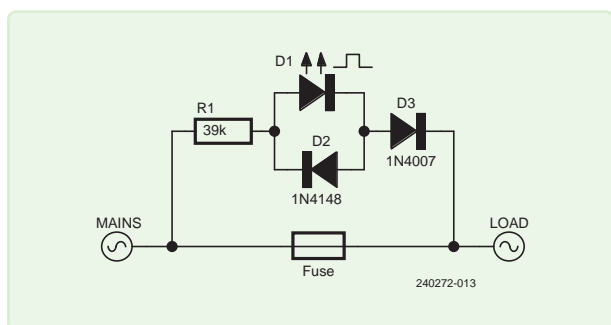

Figure 1: The super-simple circuit of the fuse guard.
**Figure 1** shows the circuit: When the fuse is triggered, the mains voltage is applied to R1 and the cathode of D3. R1 has a dual function: On the one hand, its resistance simply limits the current flowing. On the other hand, it also indirectly limits the voltage drop across the LED. If the current is small enough, the voltage dropping across D1 also remains small enough (in the 5 V range), which is beneficial for the blinking LED and its integrated electronics. An explicit voltage limiter is therefore not required. Diode D2, which is anti-parallel to D1, reduces the potential reverse voltage to a maximum of -0.7 V, which is not dangerous for D1.